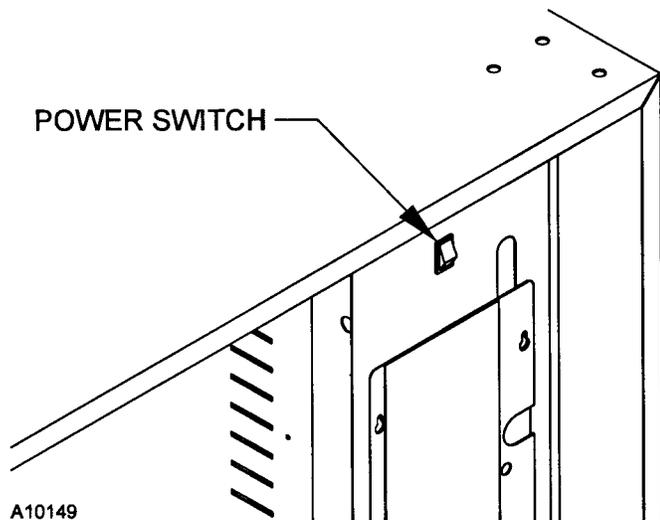

FIGURE 3. Power Switch
Each vendor is equipped with a "Power Switch" located at the top center of side panel. See Figure 3. removing all power to the Controller, Selection Buttons, and complete vending circuit.
Turning the switch to the **on** position, see Figure 3, the product display light will come on, the validator motors will cycle and the display will scroll the **POINT OF SALES** message.
- A. Open the outer door to turn the main power switch to the **OFF** position. See Figure 3.